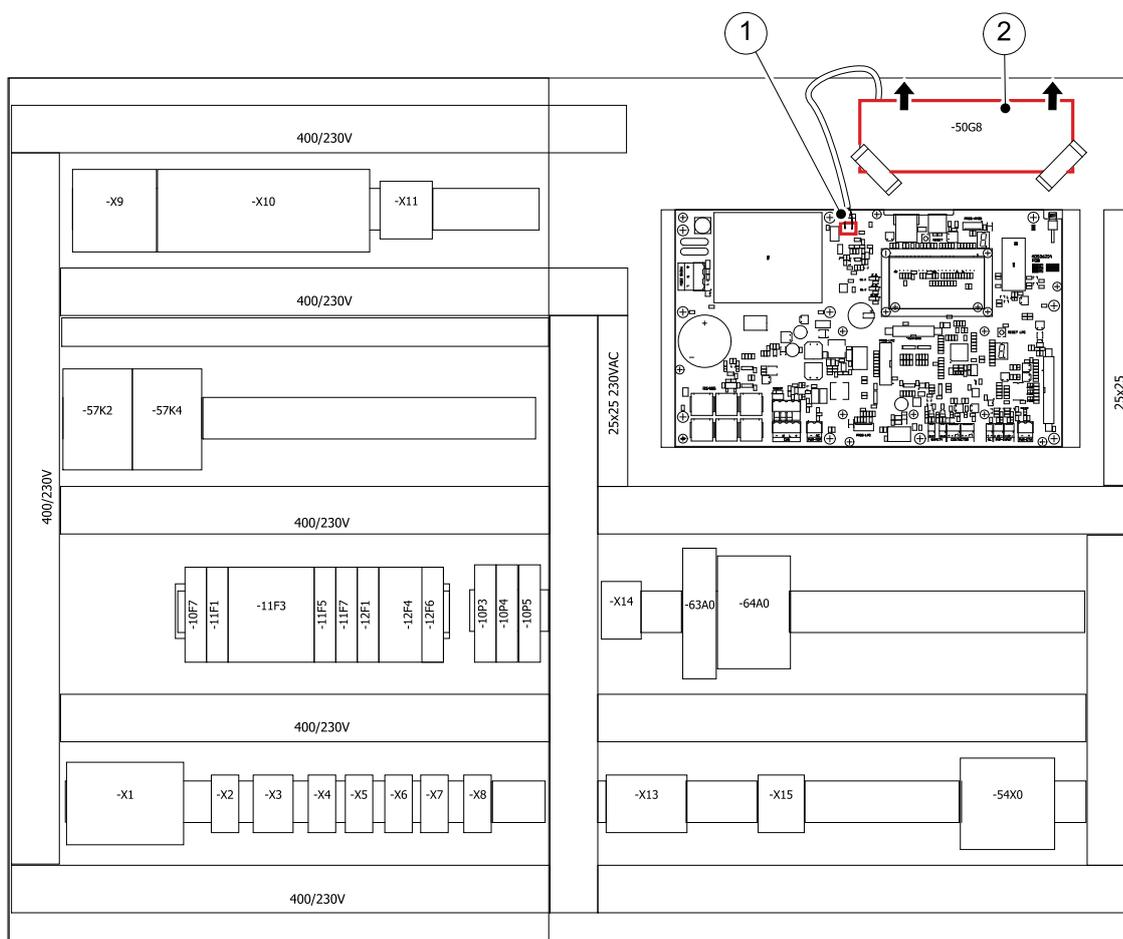

Figure 35. Disconnect the battery in the power distribution box
2. Open the power distribution box and disconnect the connector (1) (see figure 35 on page 5-9) to disconnect the backup battery (2).
1. Open the power distribution box and make sure the backup battery (2) is connected with connector (1) (see figure 35 on page 5-9).